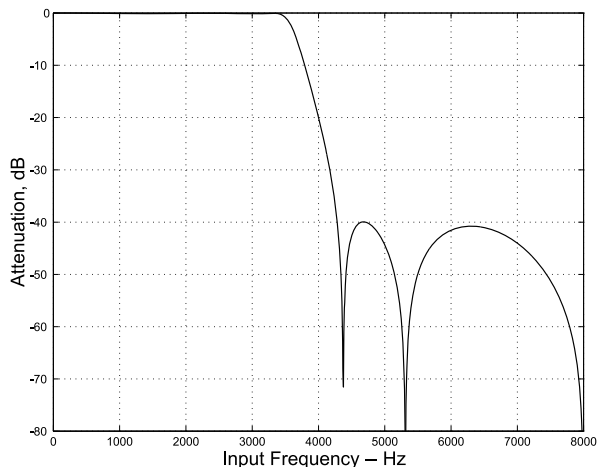
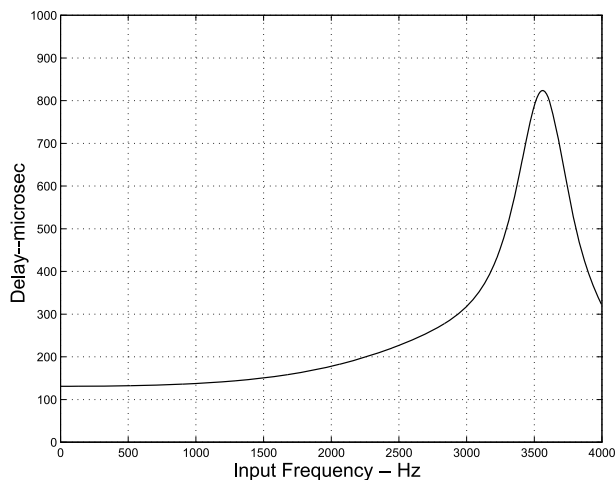

Figure 11. IIR Receive Filter Response
Figure 15. IIR Receive Group Delay
**Note:** Typical IIR filter characteristics for  $F_s = 8000$  Hz are shown in Figures 11, 12, 13, and 14. Figures 15 and 16 show group delay versus input frequency.